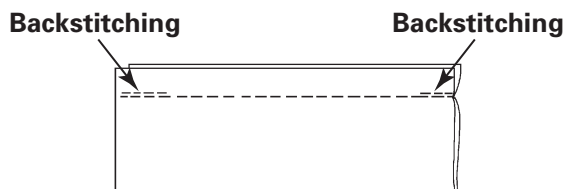

Fig. 2-2
5. Backstitch to secure the bottom end of the seam. (Fig. 2-2)